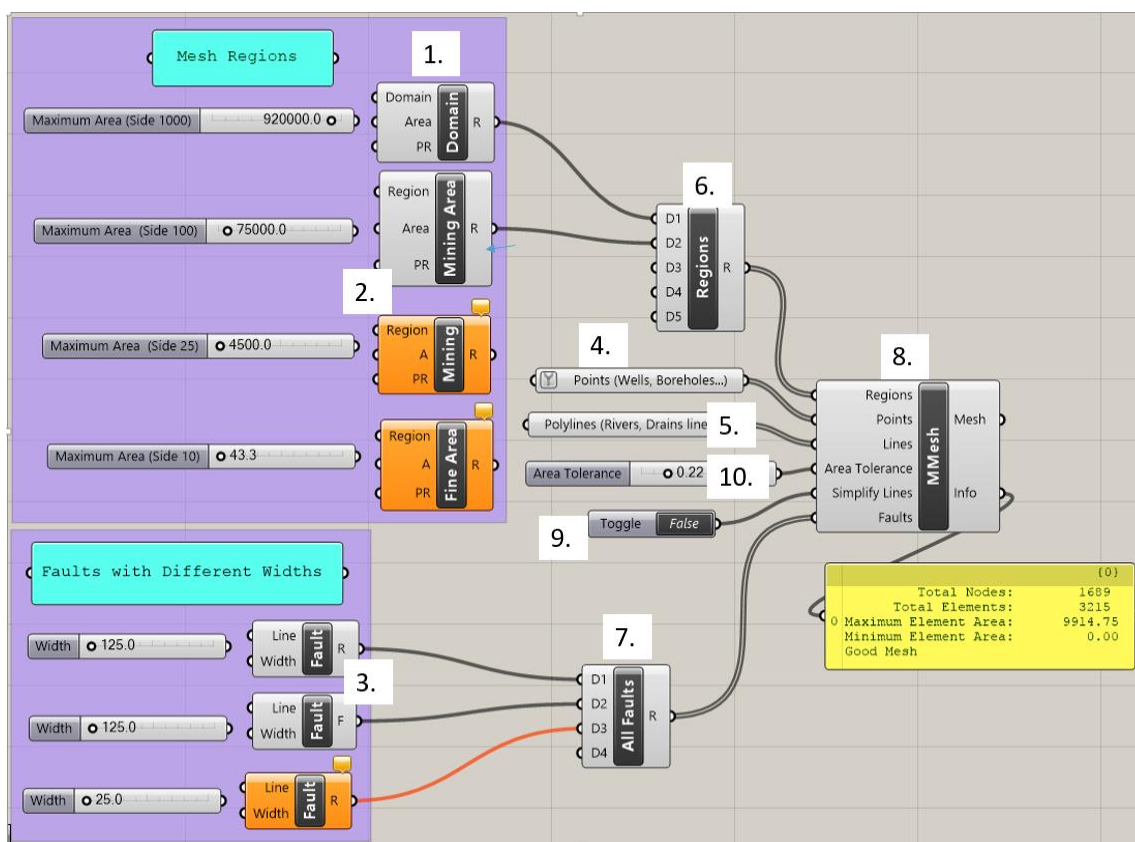

Figure 5.1. The Grasshopper mesh generator template
From the Grasshopper window, open the “template.gh” file that is in the “bin” directory of the installed **MINEDW** directory. A workflow will appear on the Grasshopper canvas, shown in Figure 5.1. This workflow is designed to create a 2-D mesh for a typical mining-related groundwater flow model. The workflow may be modified using the tools contained in *Rhino* and Grasshopper to suit any requirements.
The blocks shown in Figure 5-1 are called components. Each of the key components is labeled by number and will be explained in detail in Section 5.2. Components have input parameters on their left side and output parameters on their right side. A component box is orange in color if it has a warning message. The message can be viewed in the comment box on top of the component. The user assigns features such as rivers, wells, and faults to components in Grasshopper to add features to the mesh. The grey “All Faults” and “Regions” (6 & 7) components are used to combine multiple inputs of the same type. The grey slider blocks, if connected to another component’s input parameter, allow the user to adjust parameters such as maximum element area and fault width. The “MMesh” (8) component creates a mesh that incorporates all the components it is connected to. The yellow box below the “MMesh” component gives information about the mesh, including the number of vertices and elements and the minimum element size once it is created. Components may be connected by clicking on the half circle next to an input parameter and dragging the mouse to the half circle next to an output parameter. Components may be disconnected by right-clicking on a parameter at either end of the connection and choosing the “Disconnect” option. Once the components have been connected and assigned with the proper construction features, the mesh can be viewed and will dynamically update as changes are made to various components. The components and the steps involved in making a mesh are discussed in detail in the following sections.
The template contains the following components, which are labeled by number in Figure 5.1:
The user assigns either a “True” or a “False” value to the “Toggle” component. In the Grasshopper workflow shown in Figure 5.1, the toggle output is connected to the “Simplify Lines” input parameter in the “MMesh” component. Here, the “Toggle” component allows the user to choose whether or not the “MMesh” component simplifies any line inputs or not; “True” means that lines are simplified, and “False” means that lines are not simplified.